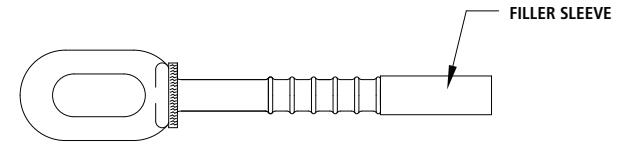

Fig. 4
4. Slide "Filler Sleeve" onto barrel of "Steel Forging." See Fig. 4.